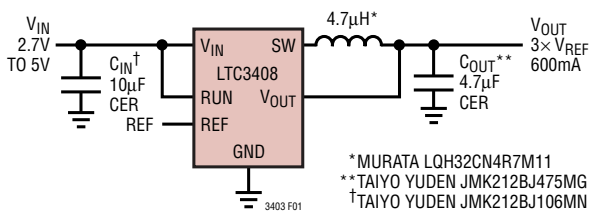

Figure 1. Typical Application
## TYPICAL PERFORMANCE CHARACTERISTICS (From Figure 1)
**TYPICAL PERFORMANCE CHARACTERISTICS** (From Figure 1)
The basic LTC3408 application circuit is shown in Figure 1. External component selection is driven by the load requirement and begins with the selection of L followed by  $C_{IN}$  and  $C_{OUT}$ .
At output voltages below 0.6V, the switching frequency decreases linearly to a minimum of approximately 700kHz. This places the maximum ripple current (in forced continuous mode) at the highest input voltage and the lowest output voltage. In practice, the resulting output ripple voltage is 10mV to 15mV using the components specified in Figure 1.
The bulk capacitance values in Figure 1(a) (CIN = 10μF, COUT = 4.7μF) are tailored to mobile phone applications, in which the output voltage is expected to slew quickly according to the needs of the power amplifier. Holding the output capacitor to 4.7μF facilitates rapid charging and discharging. When the output voltage descends quickly in